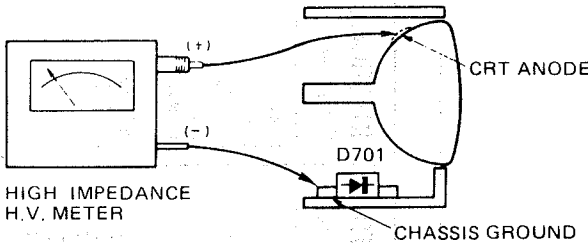

Fig. 1 Connection of H.V. Meter
2. Connect a high voltage voltmeter between the CRT anode and the anode of D701 as shown in Fig. 1.